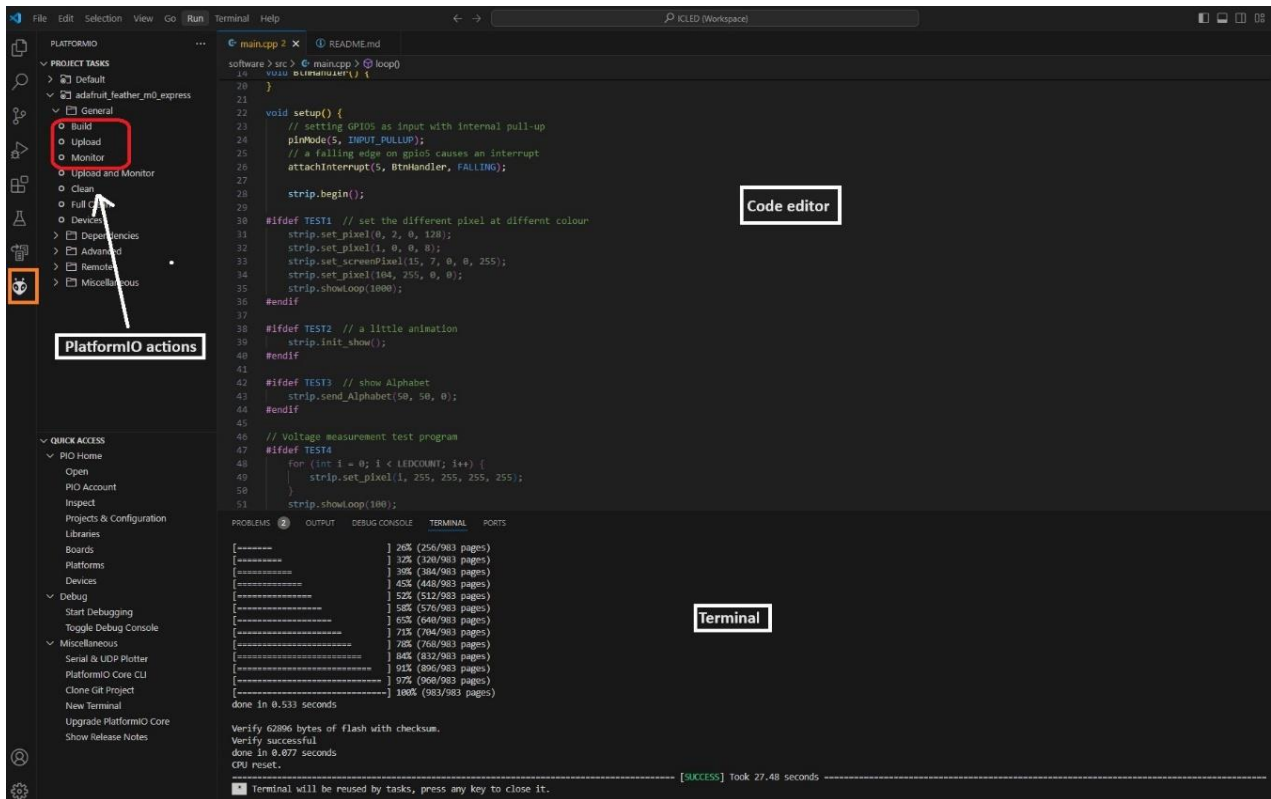

Figure 17: Running the quick start example
- After successful upload, click on Monitor to view the debug logs in the serial terminal (See Figure 17).